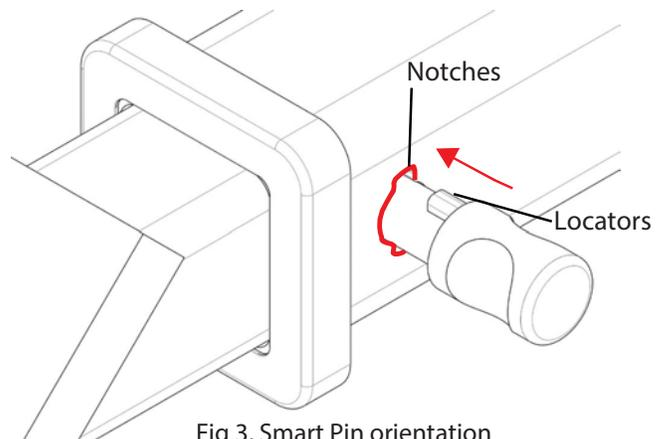

Fig 3. Smart Pin orientation
**STEP 2** Insert SMART PIN through hole in HITCHBOX and hole in TBM SHANK; ensure the LOCATORS are inserted into the NOTCHES in the HITCHBOX (Fig. 3).